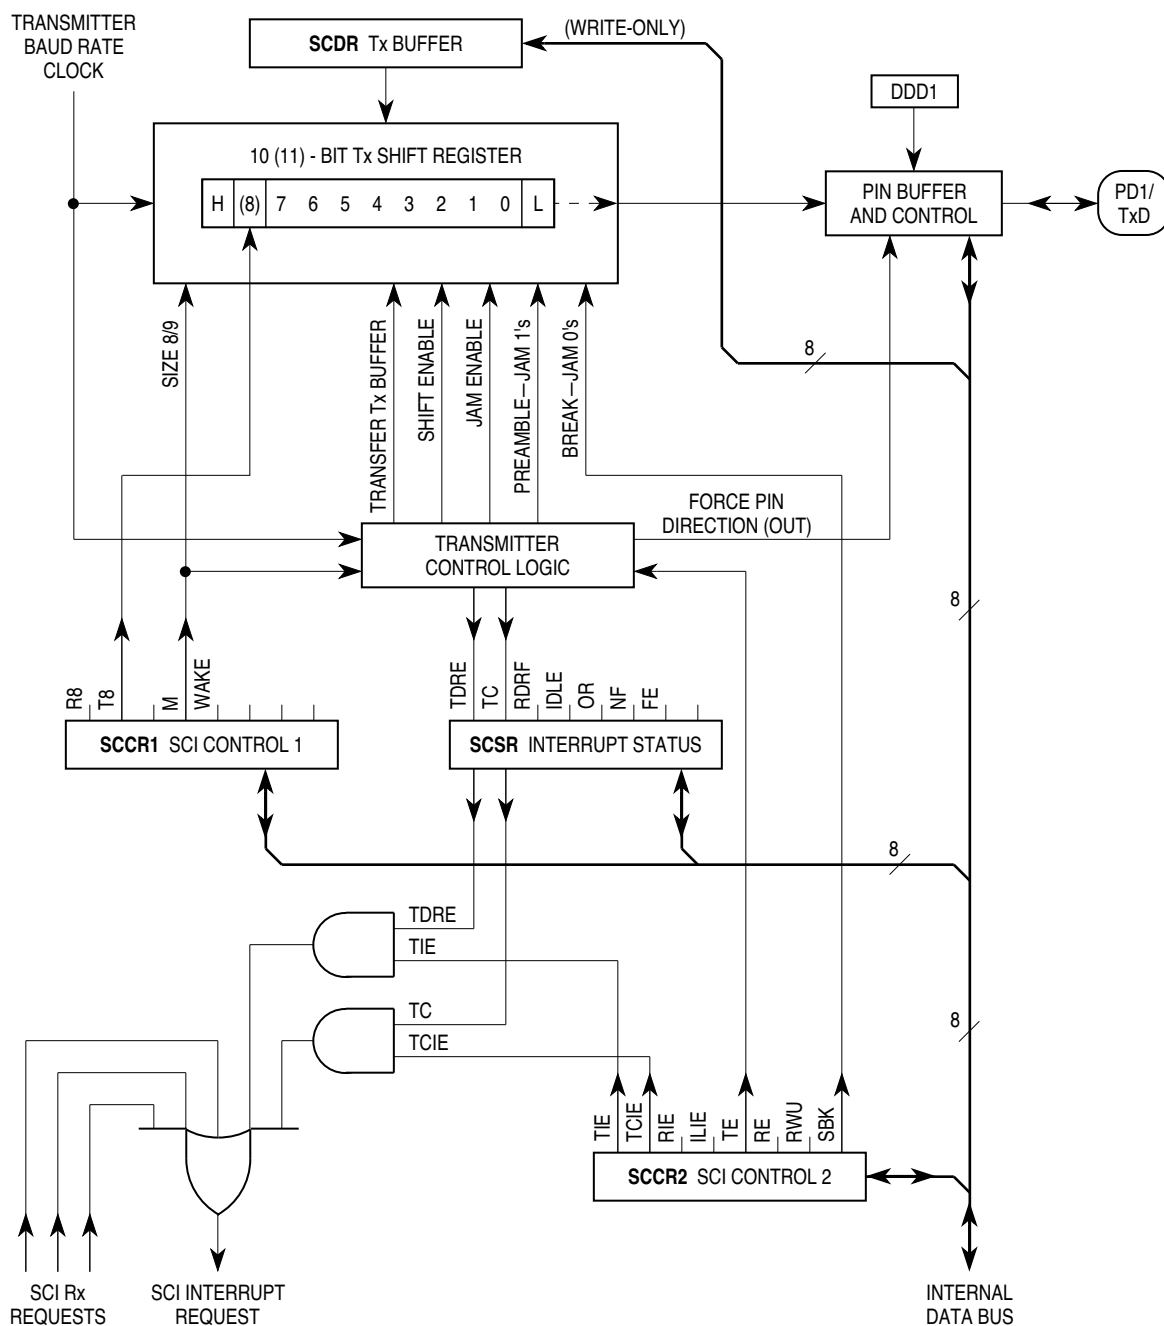

Figure 7-1 SCI Transmitter Block Diagram
The SCI transmitter includes a parallel transmit data register (SCDR) and a serial shift register. The contents of the serial shift register can only be written through the SCDR. This double buffered operation allows a character to be shifted out serially while another character is waiting in the SCDR to be transferred into the serial shift register. The output of the serial shift register is applied to TxD as long as transmission is in progress or the transmit enable (TE) bit of serial communication control register 2 (SCCR2) is set. The block diagram, **Figure 7-1**, shows the transmit serial shift register and the buffer logic at the top of the figure.